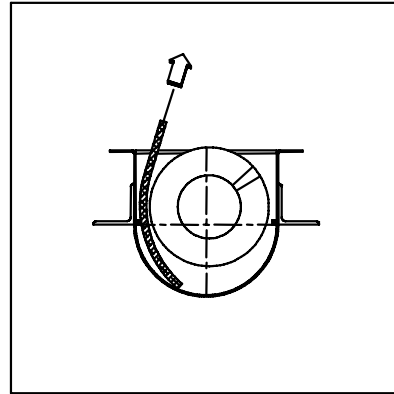

Figure 5.2d - Pulling Out the Liner
5. Take hold of the liner and pull it out (see Fig 5.2d).